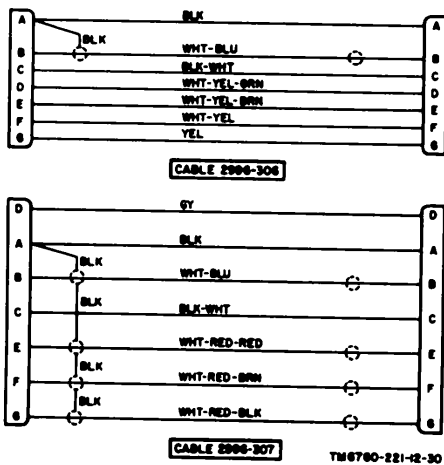

Figure 30. Analyzer accessories cables, schematic diagram.
- (1) When it is apparent that power is not being applied to one of the test sets.
- (2) When it is apparent that signals and voltages are not being interconnected between the test set being used and the equipment being tested.
b. Using Multimeter AN/URM-105, check the continuity of the suspected defective cable. Figures 30 through 34 are schematic diagrams of the interconnecting cables and should be used as a guide when